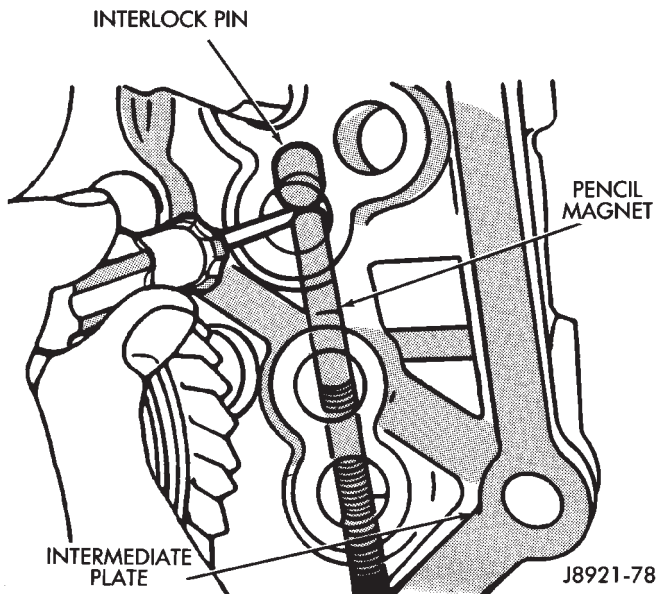

Fig. 71 Installing First Interlock Pin
(6) Insert first interlock pin in intermediate plate (Fig. 71). Use pencil magnet and screwdriver to install pin.